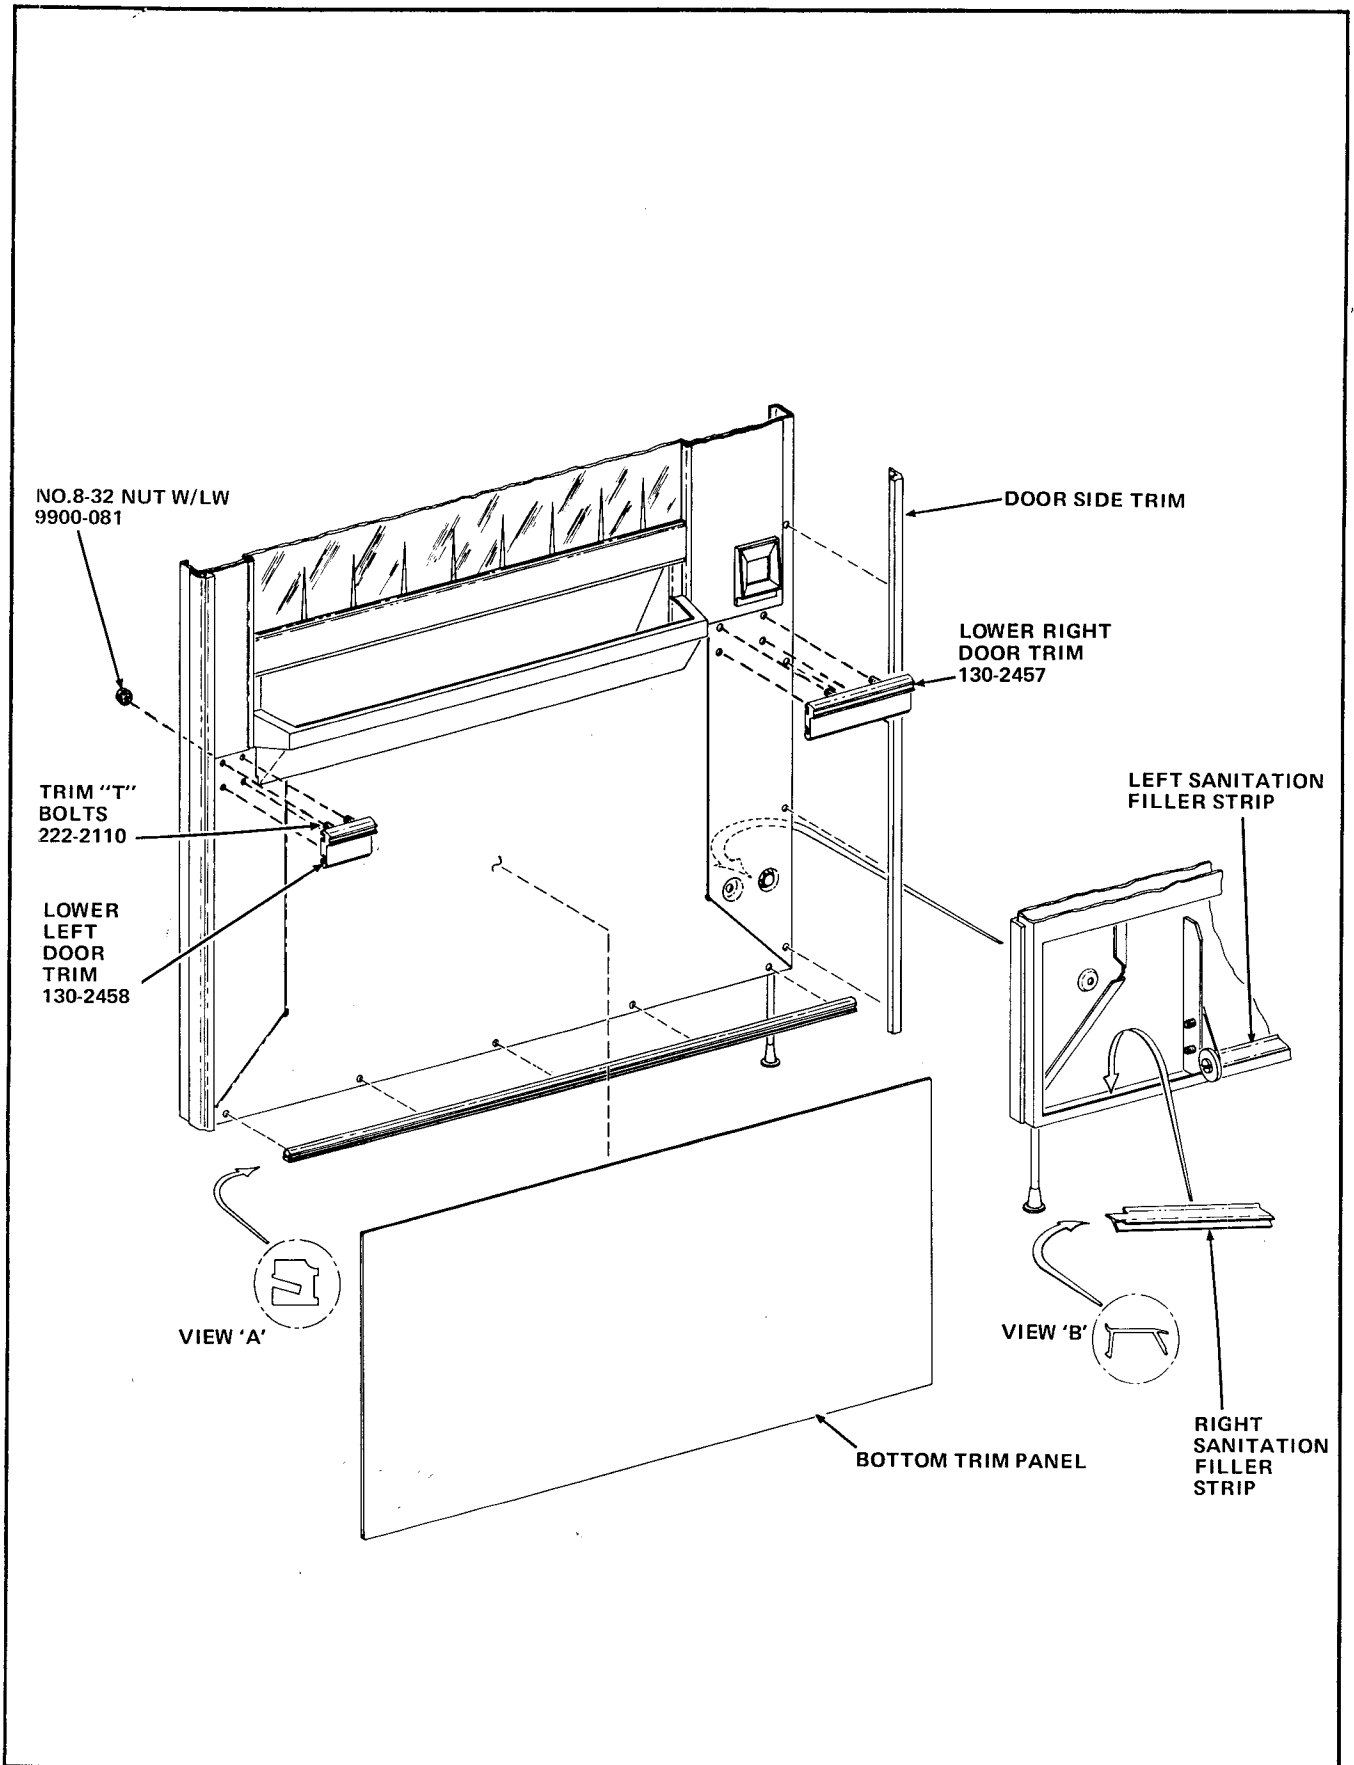

FIGURE 2
1. Install the Door Bottom Trim, removed in Step A-7, back on the Cabinet Door using the five No.6 x 7/16 Round Head Sheet Metal Screws also removed in Step A-7. Do not tighten the Screws. Be sure the Door Bottom Trim is installed with the slot slanting up as shown in View A of Figure 2.
2. Slide the Bottom Trim Panel, included in the Kit, in place on the Cabinet Door. See Figure 2.
3. Attach the Lower Left Door Trim, Part Number 130-2458, to the Cabinet Door using four Trim "T" Bolts, Part Number 222-2110, and four No.8-32 Nuts W/LW, Part Number 9900-081, all parts included in the Kit. Do not tighten the Nuts. See Figure 2.
4. Attach the Lower Right Door Trim, Part Number 130-2457, included in the Kit, to the Cabinet Door using four Trim "T" Bolts and four No.8-32 Nuts W/LW removed in Steps A-3 and A-5. Do not tighten the Nuts. See Figure 2.
5. Install the Door Side Trim, removed in Step A-6, or the Cabinet Door using the nine No.6 x 7/16 Round Head Sheet Metal Screws also removed in Step A-6. Do not tighten the Screws. See Figure 2.
8. Install the Left and Right Sanitation Filler Strip, removed in Step A-2, back on the inside bottom of the Cabinet Door by placing the slanted flange on the Filler Strip inside the Door Channel. Press down on the top of the Filler Strip to snap in place. See View B of Figure 2.